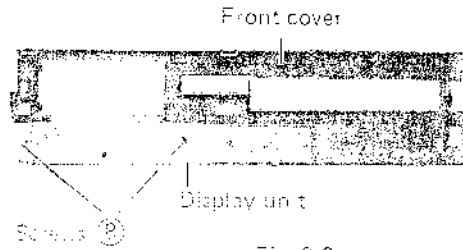

Fig. 3-9
Remove the front cover (see previous steps). Take out 2 screw (8) shown in Fig. 3-9, then remove the display unit.